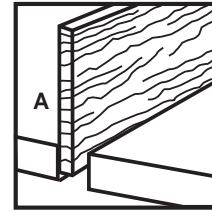

Figure 32
- Clamp board A to a workbench or clamping table. See Figure 32.